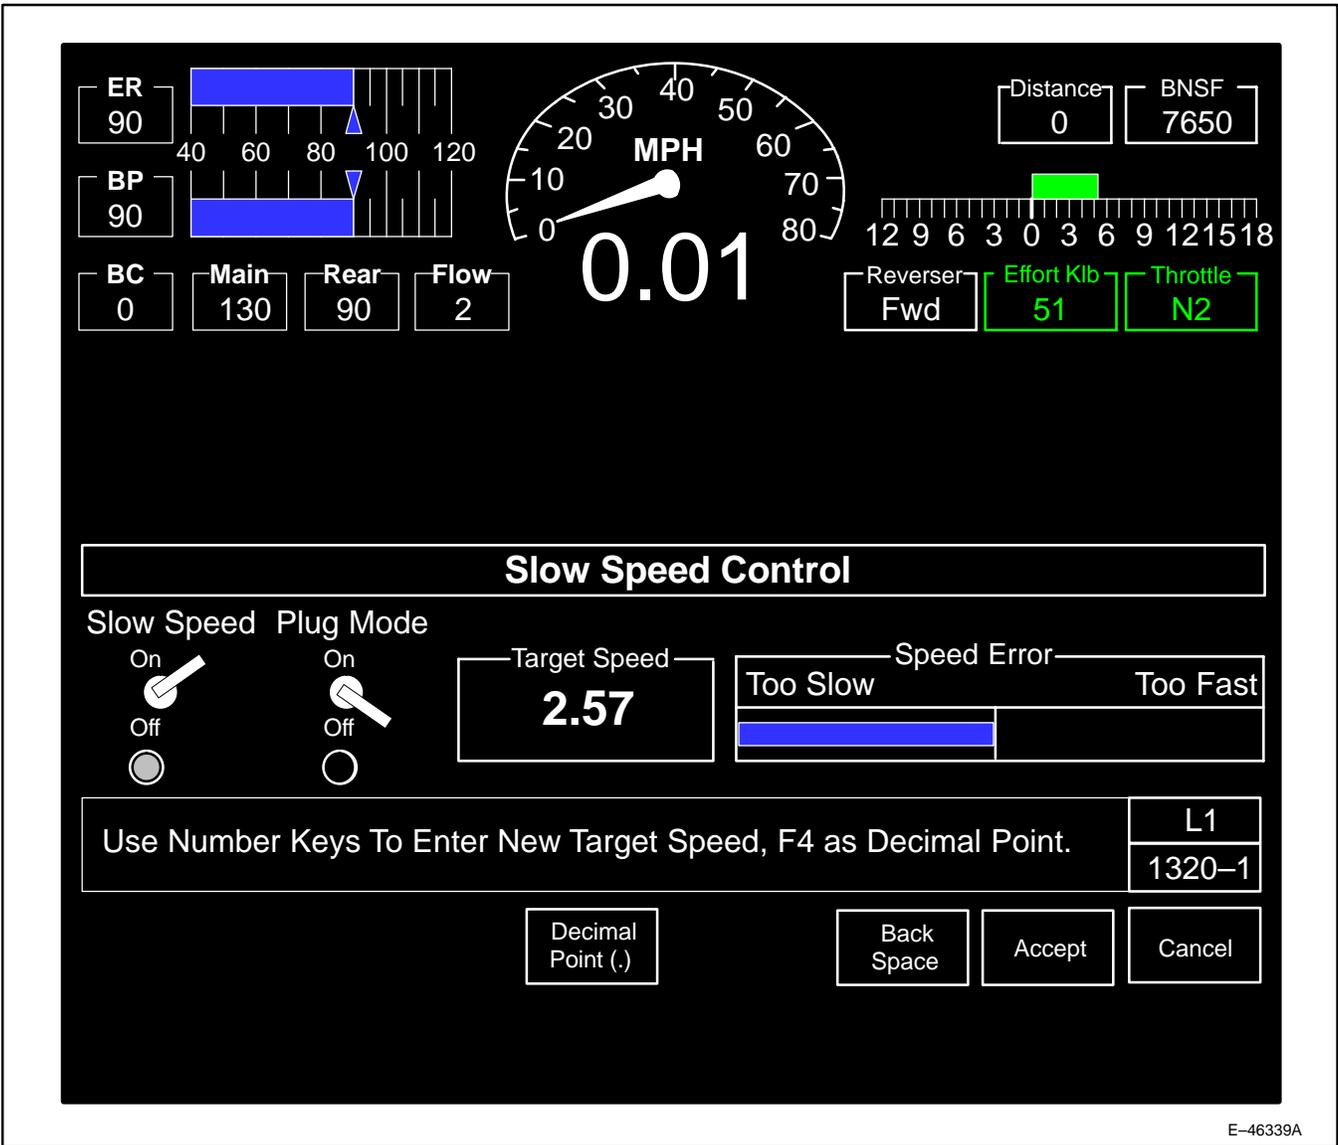

Figure 56. Slow Speed Control Change Screen (1320-1).
- g. Key position 4 (**Enter New Target**) – will display Slow Speed Control Change (Figure 56) screen (1320–1). Six keys are active on this screen as follows: